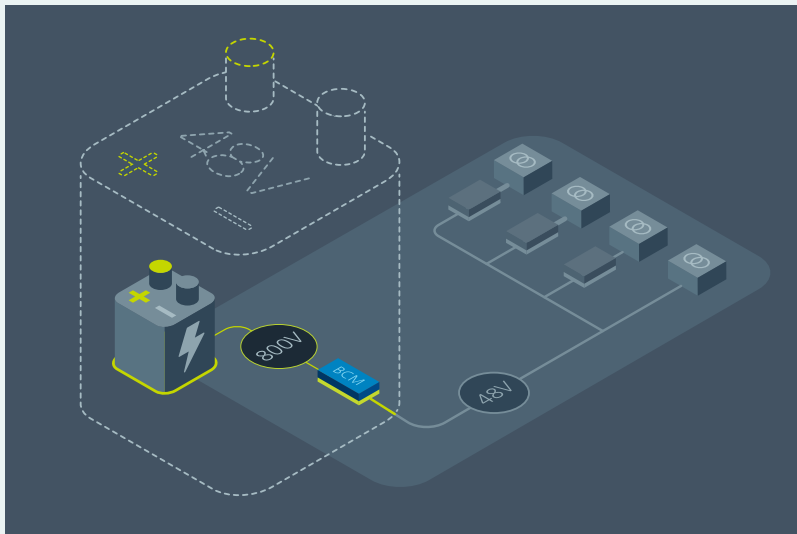

Figure 6: Power delivery network for 800V EV battery power conversion
Similar to the AI processor need, when approached to develop a high-density electric vehicle (EV) battery PDN, Vicor was able to quickly configure a SAC-topology-based module to meet those needs (Figure 6). EVs require a 48V rail to support non-motor loads within the vehicle from the primary battery in addition to requiring a chassis-mounted package. Conventional solutions to provide 48V from the 800V battery in an efficient and lightweight manner were limited.